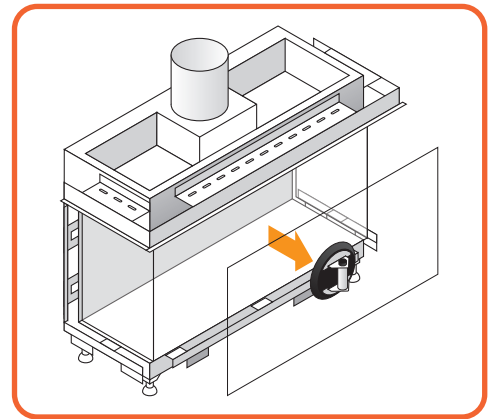

Figure 10.8 - Remove front window
- Lift the glass out of the lower glass rail and tilt it out through the opening, as seen in *Figure 10.8*.